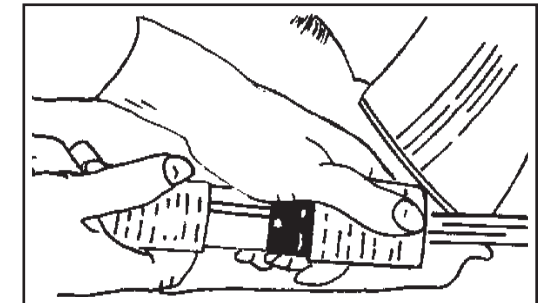

Figure 6
1. Make sure the control switch is in the "OFF" position and disconnect the motor pigtail from the supply cable. (Figure 6)
2. Make sure the control switch is in the "OFF" position then connect the supply cable to an appropriately grounded fused circuit. Connect the supply cable to the motor pigtail. (Figure 6)